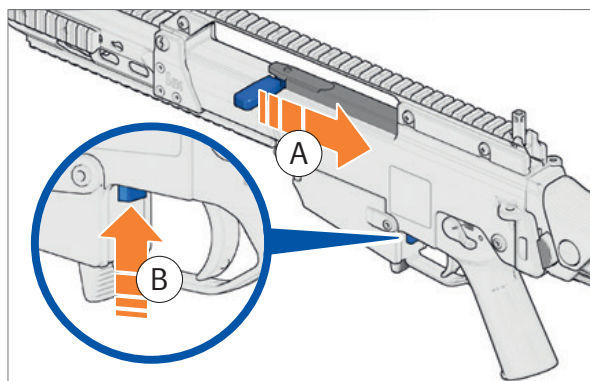

Fig. 16: Lock bolt group into place
1. Pull charging handle back and hold it (*Fig. 16*).
2. Press bolt catch/release upwards and hold it (*Fig. 16*).